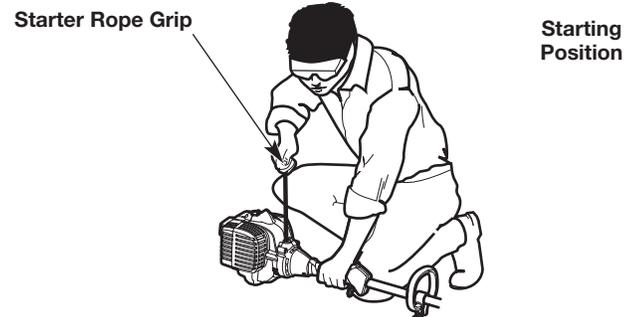

Fig. 11
**WARNING:** Avoid accidentally starting the unit. To avoid serious injury, the operator and the unit must be in a stable position when pulling the starter rope (Fig. 11).
3. Crouch in the starting position (Fig. 11).
4. Pull the starter rope with a controlled and steady motion until the unit starts (Fig. 11).